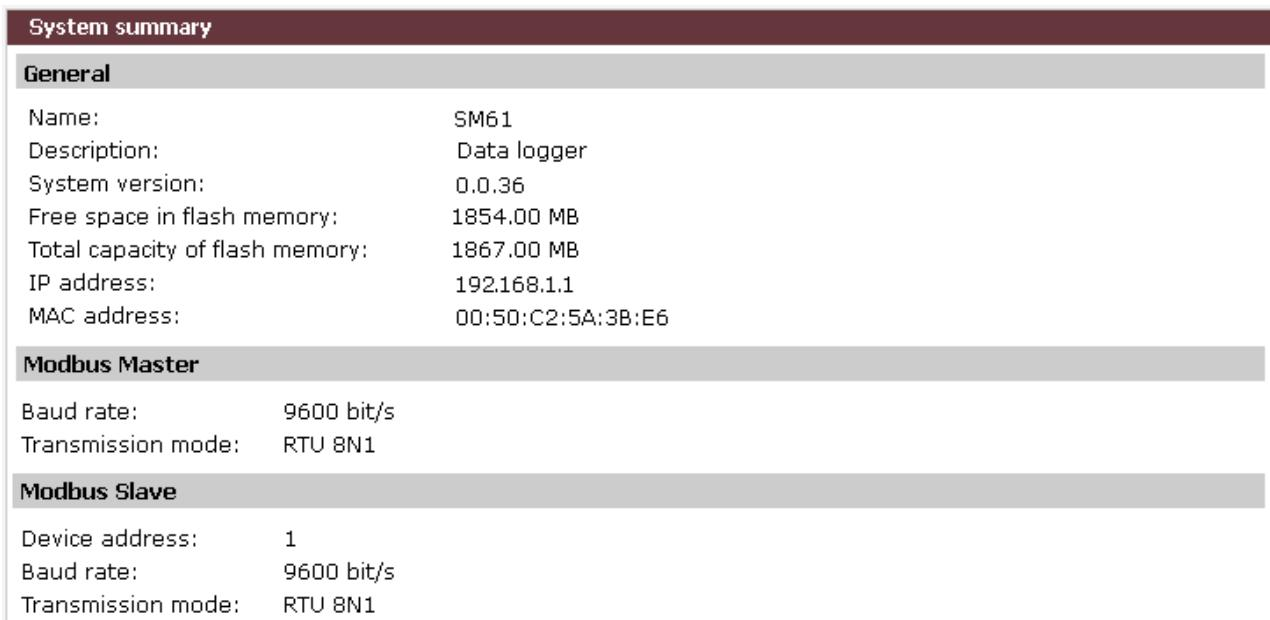

Fig. 27. Main part of the site
d) Main part of the site (fig. 27):